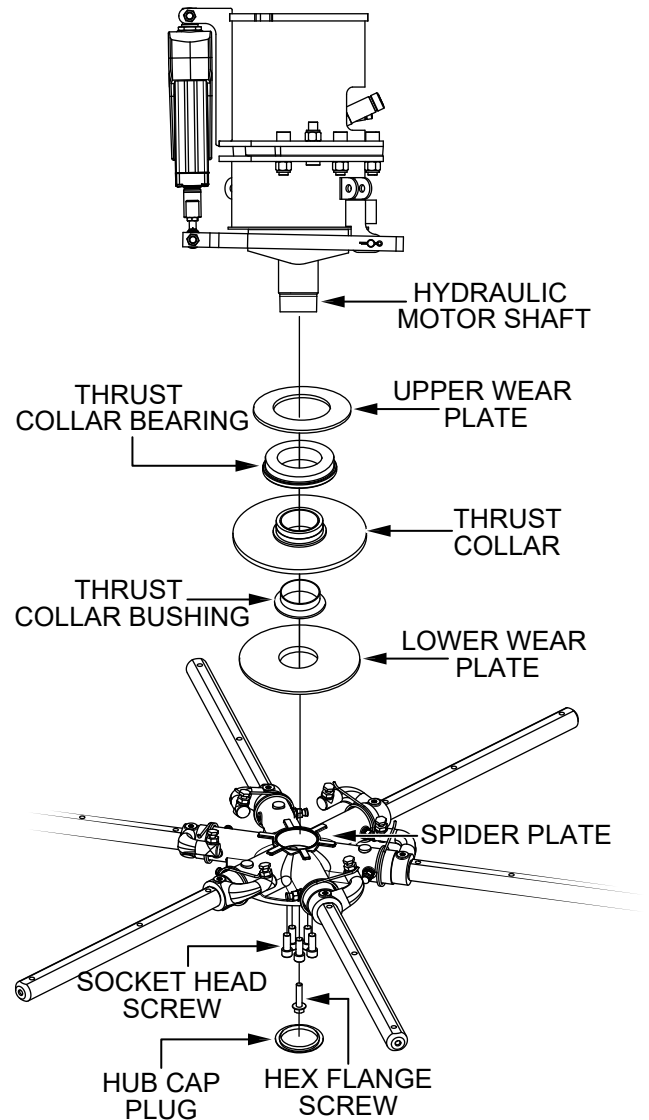

Figure 77. Spider Assembly Components
- Remove the spider hub cap plug (Figure 77) and set it aside.
- Remove and set aside the single hex flange screw and five socket head bolts securing the spider assembly to the hydraulic motor shaft (Figure 77).